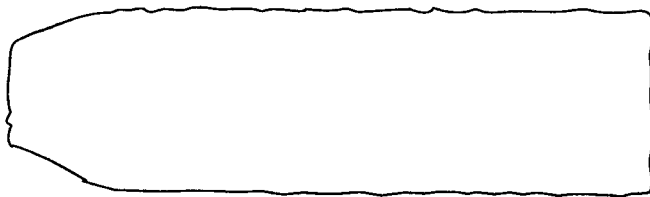
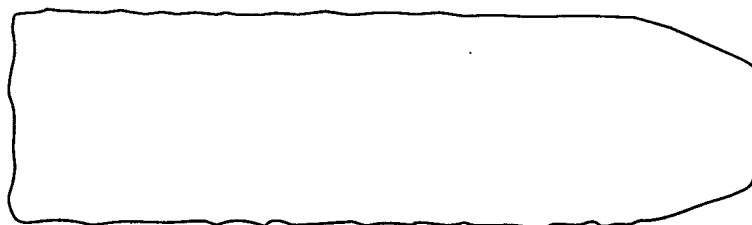
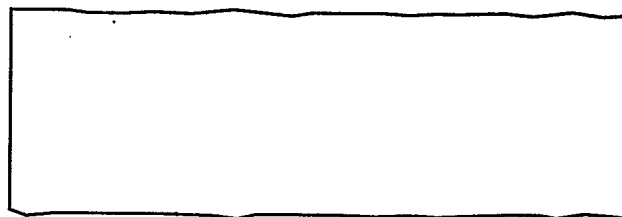

Fig. M10
Fig. M11
Fig. M12
4. When the Scope Display is as shown in Fig. M10, adjust the height of [2] so the waveform looks like Fig. M12.
5. When the Scope display is as shown in Fig. M11, adjust the height of [3] so the waveform looks like Fig. M12.
6. When [2] and [3] are aligned properly, there is no Envelope Drop at the beginning and end of track as shown in Fig. M12.